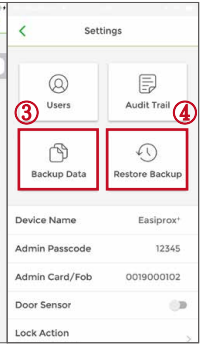

Figure 8
③ **Backup Data** : (See Figure 8 next page)
④ Restore Backup (See Figure 8)